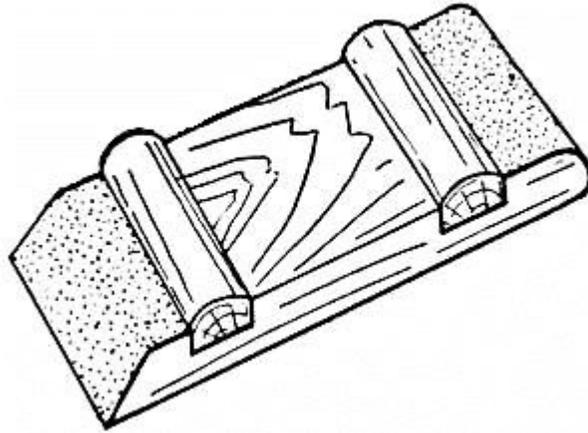

FIG. 13.—Sand-paper Block.
**A Sand-paper Block** similar to Fig. 13 should be made. Cut a block of wood five inches long, two and one-half inches wide, and seven-eighths of an inch thick. Then place it in the vise, and bevel one end and round the other as shown in the drawing. An inch and one-half from each end cut "rabbets" one inch wide across the block, and make two blocks to fit them. When this has been done, cut a strip of sand-paper two and one-half inches wide and stretch it around the block, holding it in place by driving the small blocks into the rabbets. You will find this sand-paper block very handy, as some portion of it